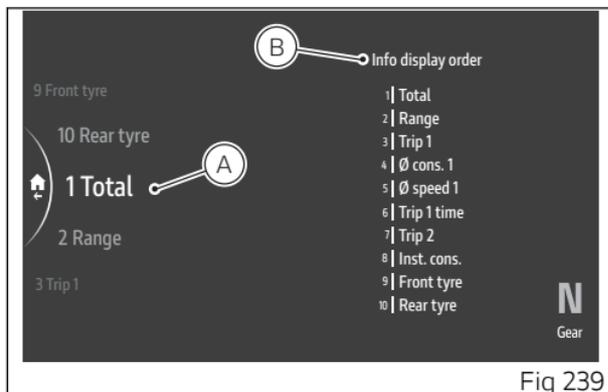

Fig 239
- Use the joystick ▲ ▼ to select “Total” and press ENTER (Fig 239).
- Two arrows (C) are displayed above and below the position number indicating that it can be changed from 1 to 10 (in this example “3”) using the corresponding joystick positions ▲ ▼.
- Press ENTER to confirm. The order of the Info display is then updated with the new position (D).
To restore the original order, select the "Default" item and press ENTER: "Wait..." is displayed for a few seconds followed by "Restored". Then, "Default" item disappears from the menu list, while the positions of the items and the current order of the Info display are restored to their original conditions (Fig 239).